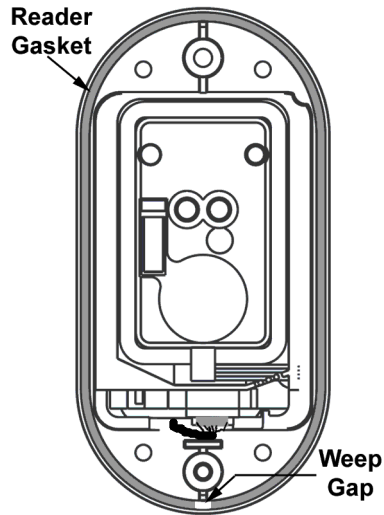

Figure 2-35 – Reader Gasket
- 2.11.5 If the Reader Gasket (Figure 2-35) is not already mounted on the Reader Base Plate, position the Reader Gasket in the outer groove of the Reader Base Plate making certain that the ends of the Reader Gasket are at the bottom of the base plate and that there is a Weep Gap.